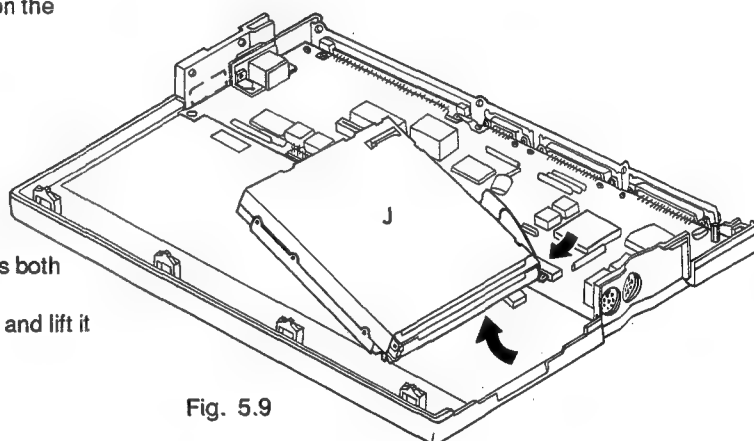

Fig. 5.9
- Shift the floppy diskdrive for about 6 mm to the left and lift it up to remove it, see Fig. 5-9.